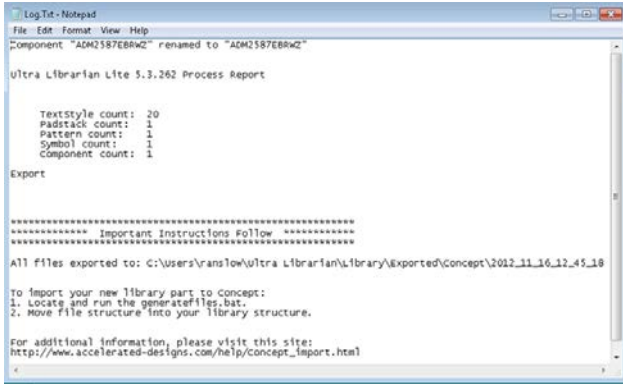

Figure 3. Exporting Files to Cadence Concept 15 or Newer Format and Importing to the Cadence Library
7. Select the **Export to Selected Tools** option. A text box log file similar to that shown in Figure 3 is then displayed. This displays the location of the exported files and provides guidance for importing the new library to Cadence Allegro 15.2 or newer.